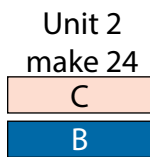

Fig. 4
2. Sew (1) $2'' \times 6\frac{1}{2}''$ Fabric C strip to the top of (1) $2'' \times 6\frac{1}{2}''$ Fabric B strip lengthwise to make (1) Unit 2 strip (Fig. 4). Repeat to make (24) Unit 2 strips total.